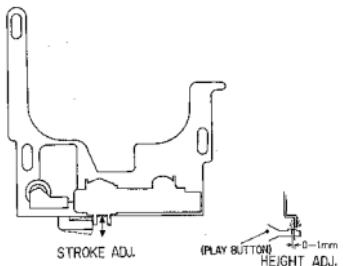

Fig. 5.4
- (1) Remove the mechanism ass'y referring to item 3.6, mechanism ass'y removal procedure.
- (2) Adjust the height of head base stroke adjustment plate as illustrated in Fig. 5.4 (Height Adj.).
- (3) Load the "INFORMATION TERMINALS M-300" jig for positioning the record/playback head, pushing it backward to eliminate the clearance between reference pin and jig.
- (4) Depress the play button and check to insure whether the positioning of the head is within the specified tolerance. If not, adjust the head base stroke adjustment plate from the bottom side in stop mode.
See Fig. 5.4 (Stroke Adj.).